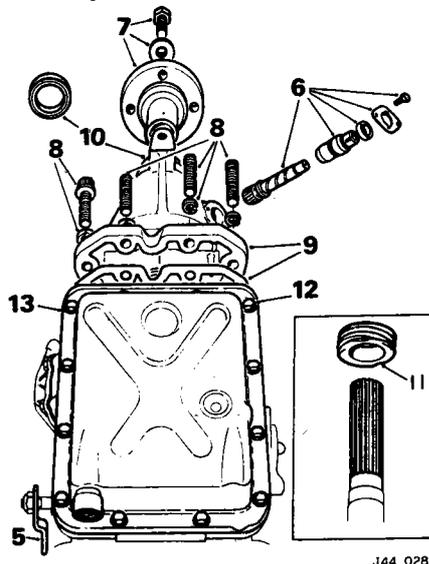

Fig. 27
5. Position the selector lever in 'P' (Park) (Fig. 27).
6. Remove the speedometer driven gear housing together with the driven gear, remove and discard the 'O' ring (Fig. 27).
7. Remove the bolt and plain washer securing the output flange; withdraw the flange (Fig. 27).
8. Note the fitted position of the bolts, stud bolts and spacers. Remove the bolts, stud bolts, plain washers and spacers securing the rear extension housing to the transmission case (Fig. 27).
9. Withdraw the rear extension housing, remove and discard the gasket (Fig. 27).
10. Remove and discard the oil seal (Fig. 27).
11. Slide the speedometer drive gear off the output shaft (Fig. 27).
12. Remove the bolts and spring washers securing the oil pan to the transmission case (Fig. 27).
13. Lift off the oil pan; remove and discard the gasket (Fig. 27).